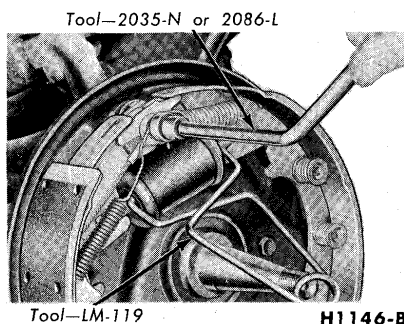

FIG. 5—Typical Retracting Spring Removal
1. With the wheel and drum removed, install a clamp over the ends of the brake cylinder as shown in Fig. 5.
2. Remove the secondary shoe to anchor spring with the tool shown in Fig. 5. With the same tool, remove the primary shoe to anchor spring and unhook the cable anchor.